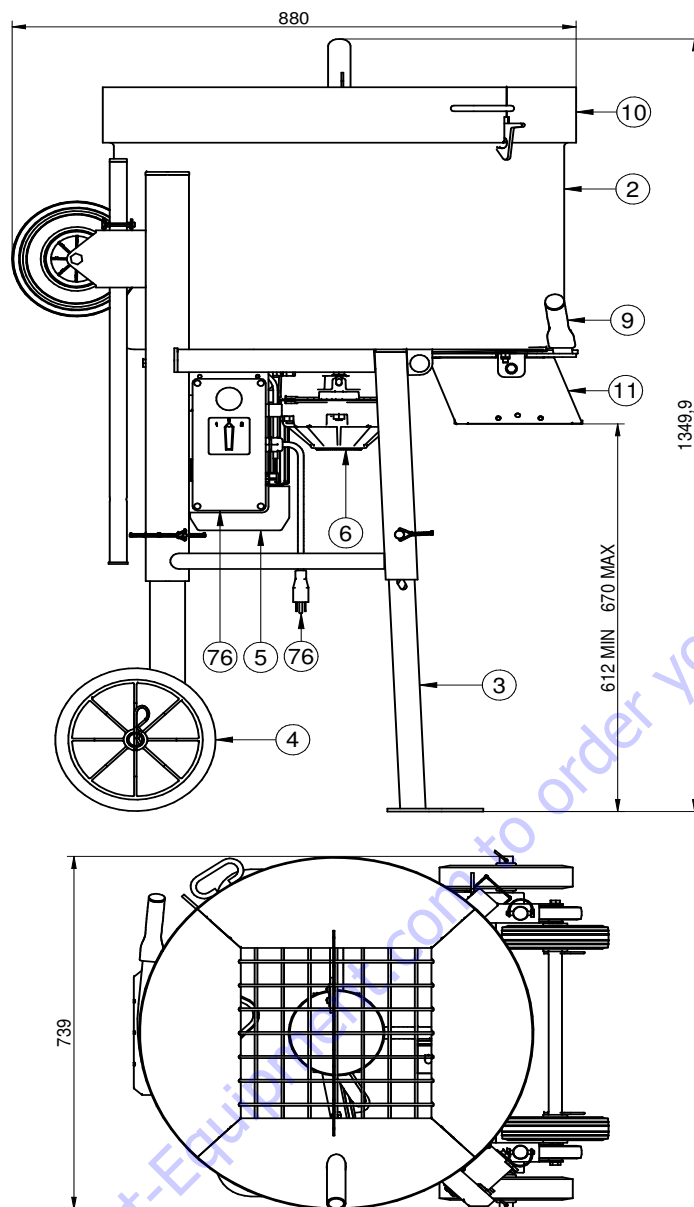

FIG.1
The mixer is composed of a frame (ref.1, fig.1) which supports the mixing tank (ref.2, fig.1).
The tank mounts the gear reducer (ref.6, fig.1) driven by the motor (ref.5, fig.1) via a poly-V drive belt.
The tank can be emptied by opening the outlet (ref.7, fig.1) by hand.
The motor is started and stopped with the switch on the electrical cabinet (ref.8, fig.1).
The electrical cabinet has a plug (ref.9, fig.1) for connecting to the electric power supply.
! - To stop the mixer, use the switch (ref.8, fig.1). Do not attempt to stop the mixer in any other manner.
The tank is fitted with a guard which enables mix components to be loaded into it while preventing access to the mixing area (ref.10, fig.1).
The machine is also equipped with a guard on its outlet to prevent access to the mixing area (ref.11, fig.1).
! - Before moving the mixer in this way, make sure the tank guard safety hook (ref.12, fig.1) is engaged.